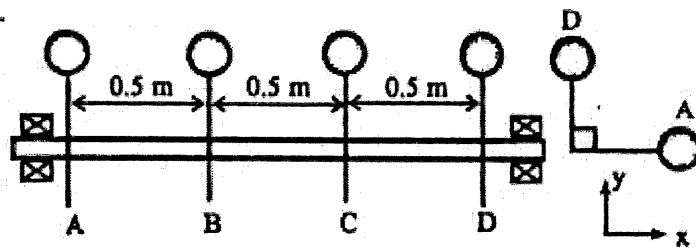

Figure 1
- a) Figure 1 shows four masses  $m_A$ ,  $m_B$ ,  $m_C$  and  $m_D$  fixed on a shaft rotating at constant speed 100 rev /min. The corresponding radii of rotation are  $r_A=100$  mm. The corresponding radii of rotation are  $r_A=100$  mm,  $r_B = 120$  mm,  $r_C = 200$  mm and  $r_D=150$  mm. If  $m_A=15$  kg,  $m_D=8$  kg and the position between these masses is  $\theta_{A/D} = 90^\circ$ , for complete balance, **compute** the position and magnitude of mass B and C where B is references (starting point). (7 marks)